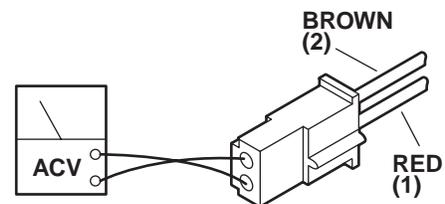

Figure 6-5. Connector CN13 Test
2. Connect CN12, disconnect CN13 (brown and red wires) and using an AC voltmeter, test the transformer output at CN13. See figure 6-5.